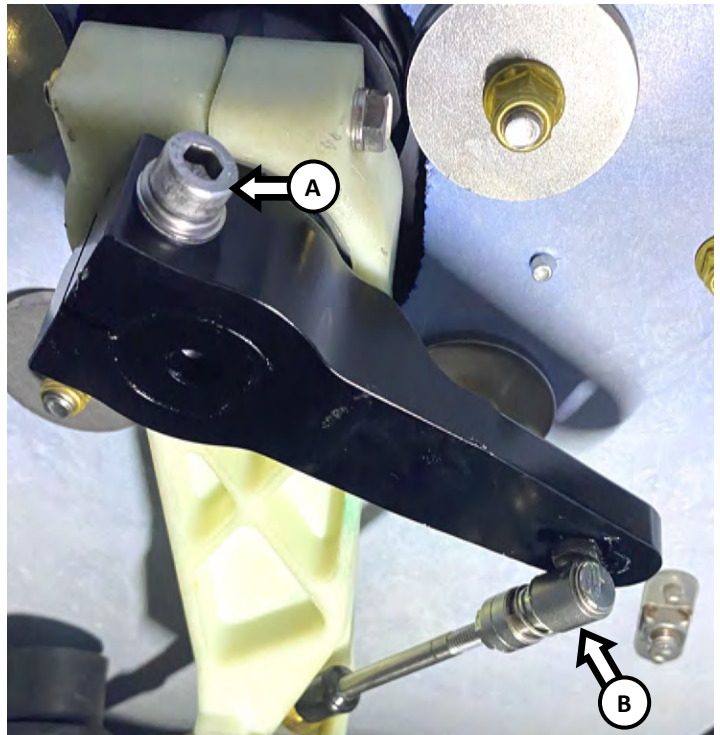

Figure 14
Install supplied RIVA Billet Steering Arm onto end of RIVA Billet Steering Shaft completely. Thread supplied M8x55 SHCS with M8 flat washer and M8 lock washer (A) into Billet Steering Arm, but do not tighten completely. (See figure 14)
Apply waterproof grease to ball joint on end of Billet Steering Shaft and attach steering cable ensuring locking collar (B) is properly seated. (See figure 14)